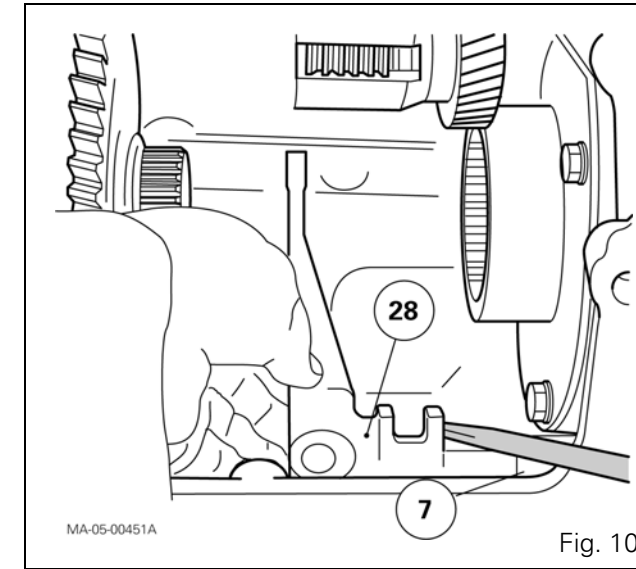

Fig. 10
16. Remove the fork (28) on the selector rail (7) (Fig. 10).